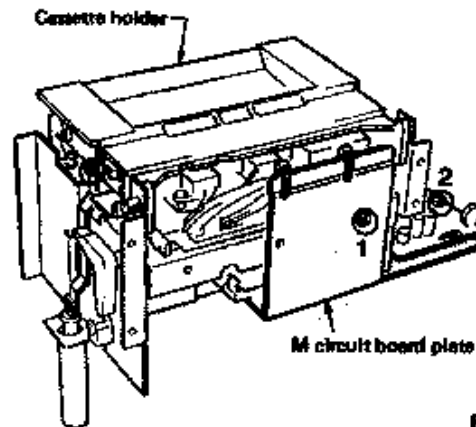

Fig. 7
- Remove screw ① in fig. 7 and loosen screw ② in fig. 7, and then remove M circuit board plate.
- Remove screw ③ in fig. 7 and open the cassette holder.